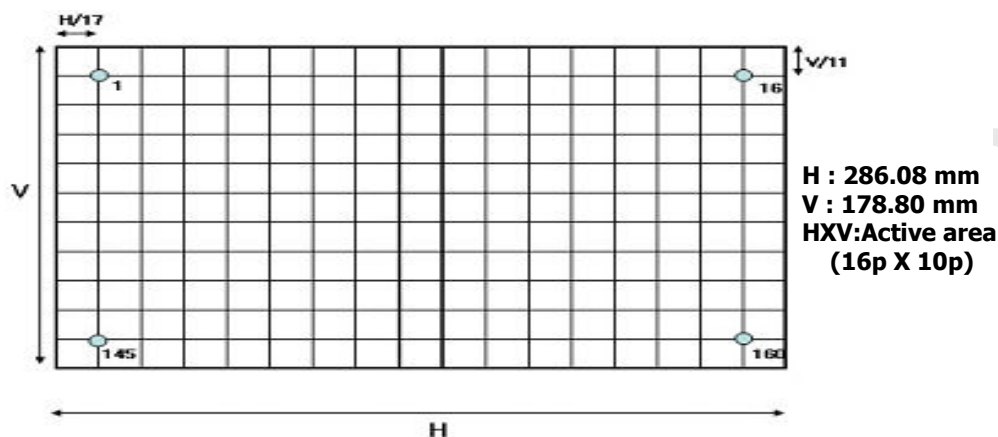

FIG. 3 Response Time
| Response time | $T_{rR} + T_{rD}$ | - | - | 16 | 25 | ms | Fig 3 |
2. Response time is the time required for the display to transition from white to black (rise time, Tr_R) and from black to white(Decay Time, Tr_D). For additional information see FIG 3.